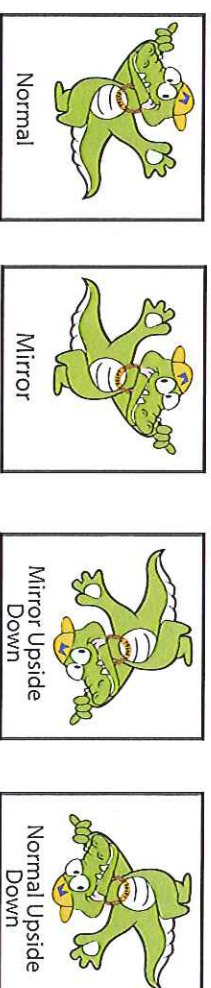

FIG. 1
3. If the image does not display a mirror image view, press the top button on the monitor to change the image orientation (ref. Fig 1, page 9).